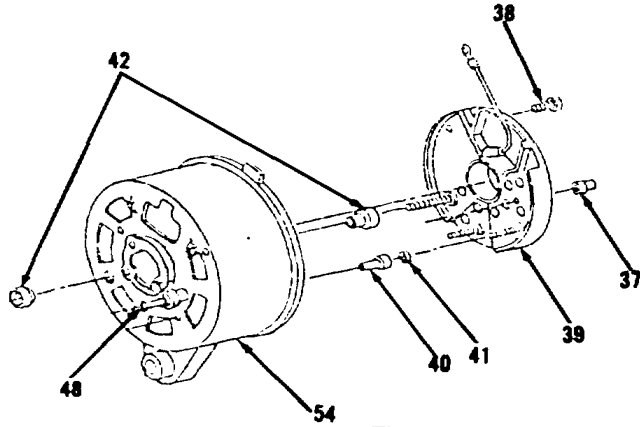

Figure 4-32.
- 5. Position two bushings (42) in hole of frame (54, Figure 4-32) marked "B+".
- 6. Position washer (41) and insulator (40) in hole of frame (54) marked "D+".
- 7. Install diode assembly (39) in frame (54).
- 8. Install two screws (38) securing diode assembly (39) to frame (54).